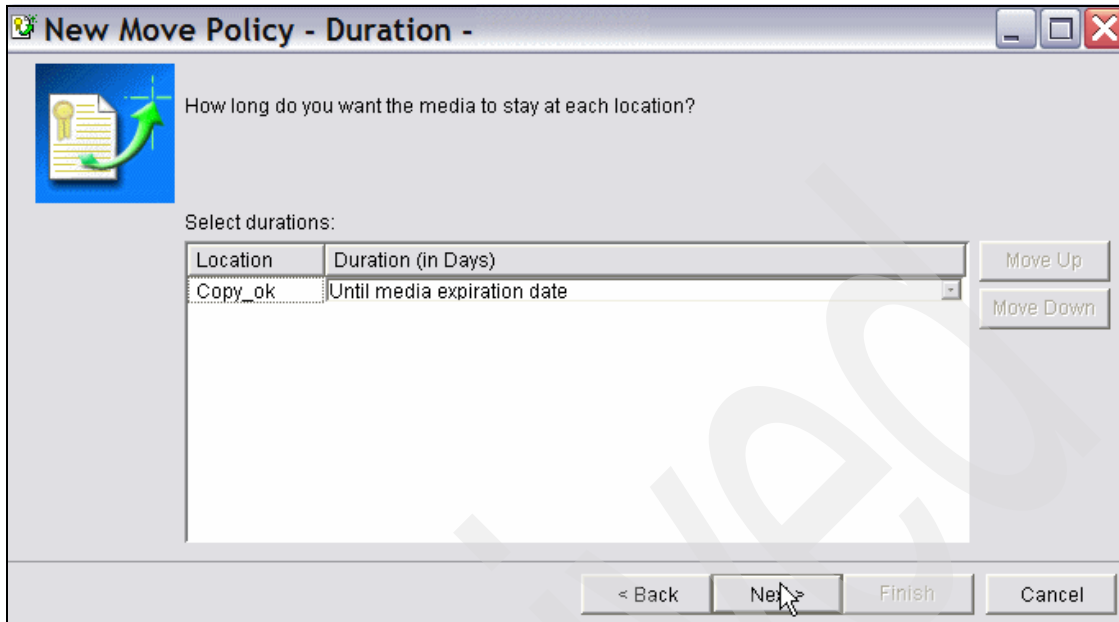

Figure 5-47 BRMS virtual move policy, duration
5. In the New Move Policy - Duration window shown in Figure 5-47 on page 235, the Duration field should display the text Until media expiration date. Click **Next**.